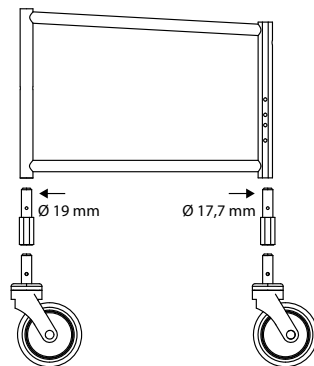

Fig.18
2. Place the four height adapters between the frame and the swivel wheel and screw them firmly onto the frame ( Fig. 18).